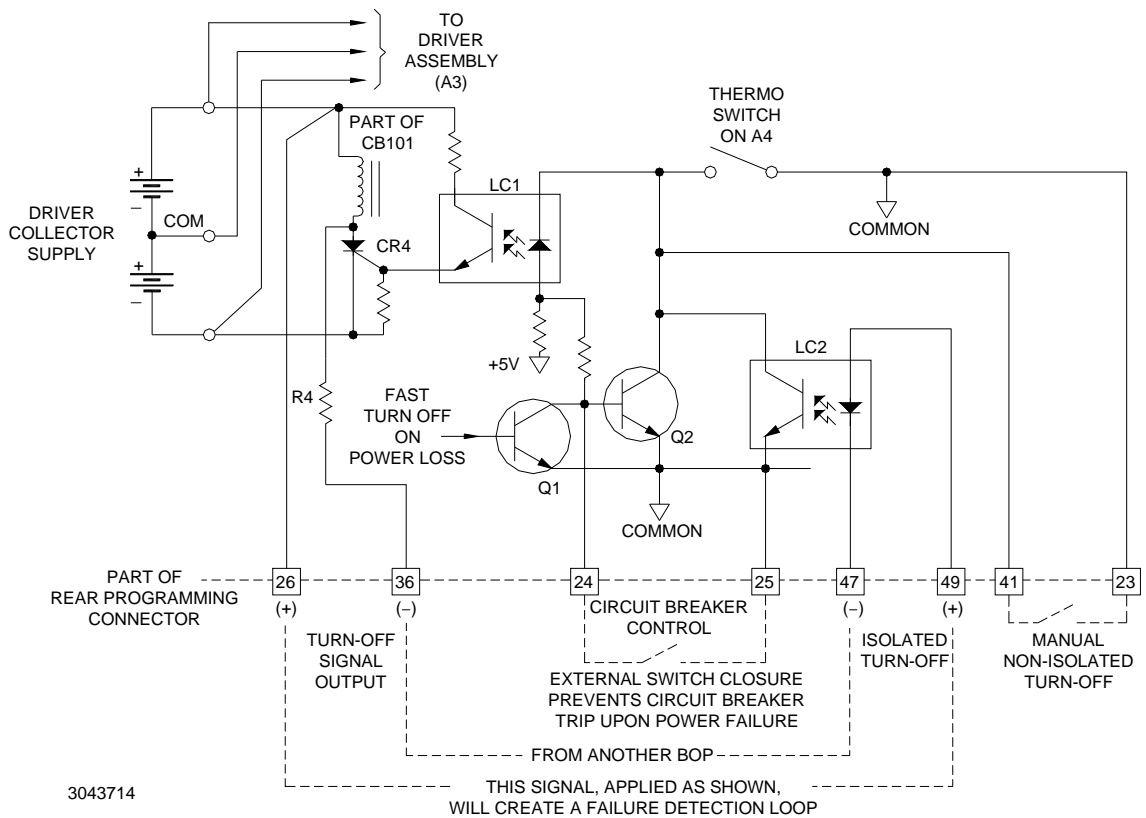

FIGURE 3-25. CIRCUIT BREAKER CONTROL CIRCUIT, SIMPLIFIED DIAGRAM.
The BOP is protected by the dual-coil circuit breaker/ON-OFF switch (CB101) as shown in Figure 3-25. The current sensing coil of CB101 is connected in series with the primary winding of T201, thus detecting overcurrent reflected into the primary circuit and subsequently tripping the circuit breaker. The voltage sensing coil of CB101 is connected in series with an SCR (CR4) across the driver collector supply. If the SCR is triggered on, the voltage sensing coil is energized and trips the circuit breaker. The SCR (CR4) can be triggered in several ways:
- A manual, non-isolated turn-off is provided which, when implemented with an external switch contact as shown in Figure 3-25, will energize the diode in the first optocoupler (LC-1). thus providing the SCR turn-on.